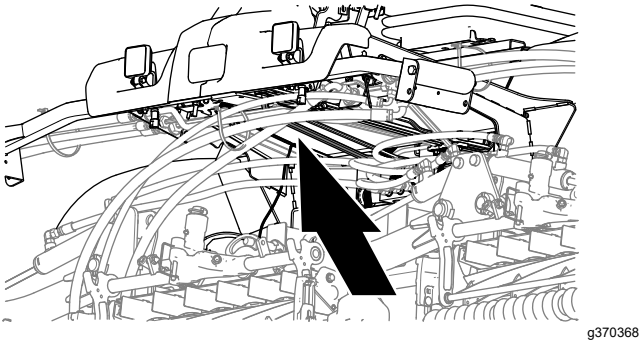
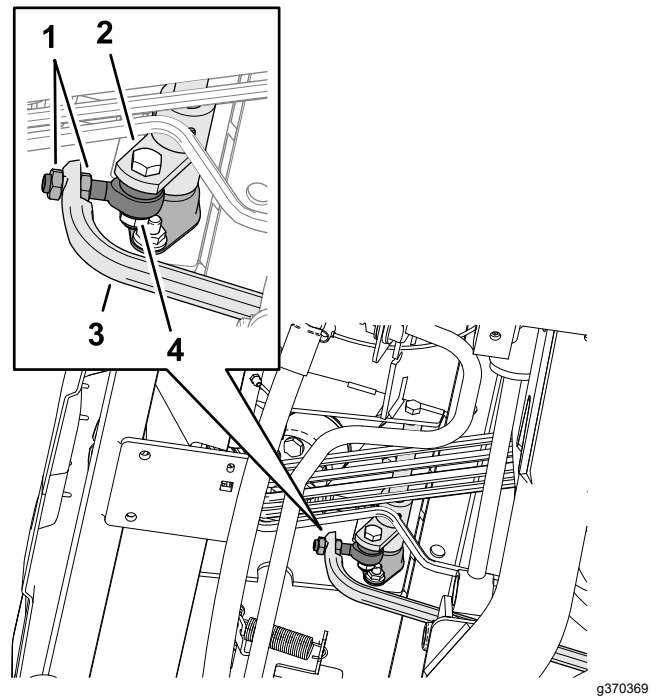

Figure 140
Figure 141
5. Adjust the jam nuts on the rod end to move the traction rod forward to eliminate forward creep or rearward to eliminate rearward creep (Figure 140 and Figure 141).